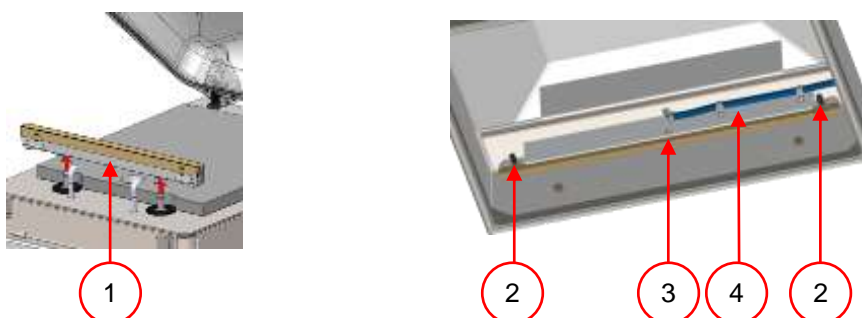

Figure 17: Removing the seal bar
- On machines with a plastic lid, the sealing bars are mounted on cylinders (Figure 17:1). On machines with a metal cover, the seal bars are mounted in the lid (Figure 17:2 t/m 4)